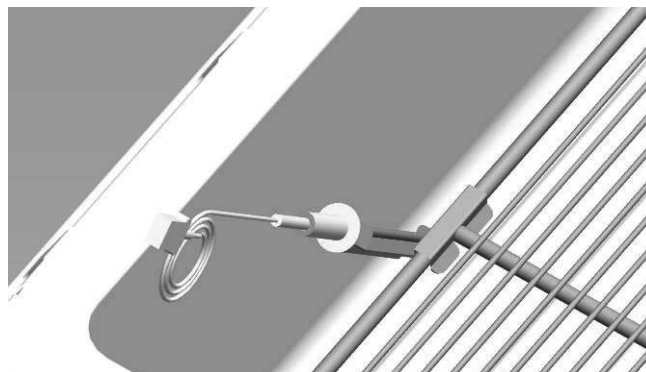

FIGURE 6
3. Before using the Rapid Chiller, allow the unit to pre-chill for approximately 15 minutes. To do this, turn the unit on by pressing the ON/OFF button (make sure to leave the unit empty for the pre-chill step) and set to cycle 1 **Refrigerator mode** (see instruction to set mode on **page 21**). Leave the product probe in the probe holder in the insert (see **Figure 6**). The unit will cycle and hold around 35° F.
11. Clean and sanitize the Product Probe after each use. When not in use insert probe in Probe bracket inside the insert as shown in **Figure 6, page 23**.